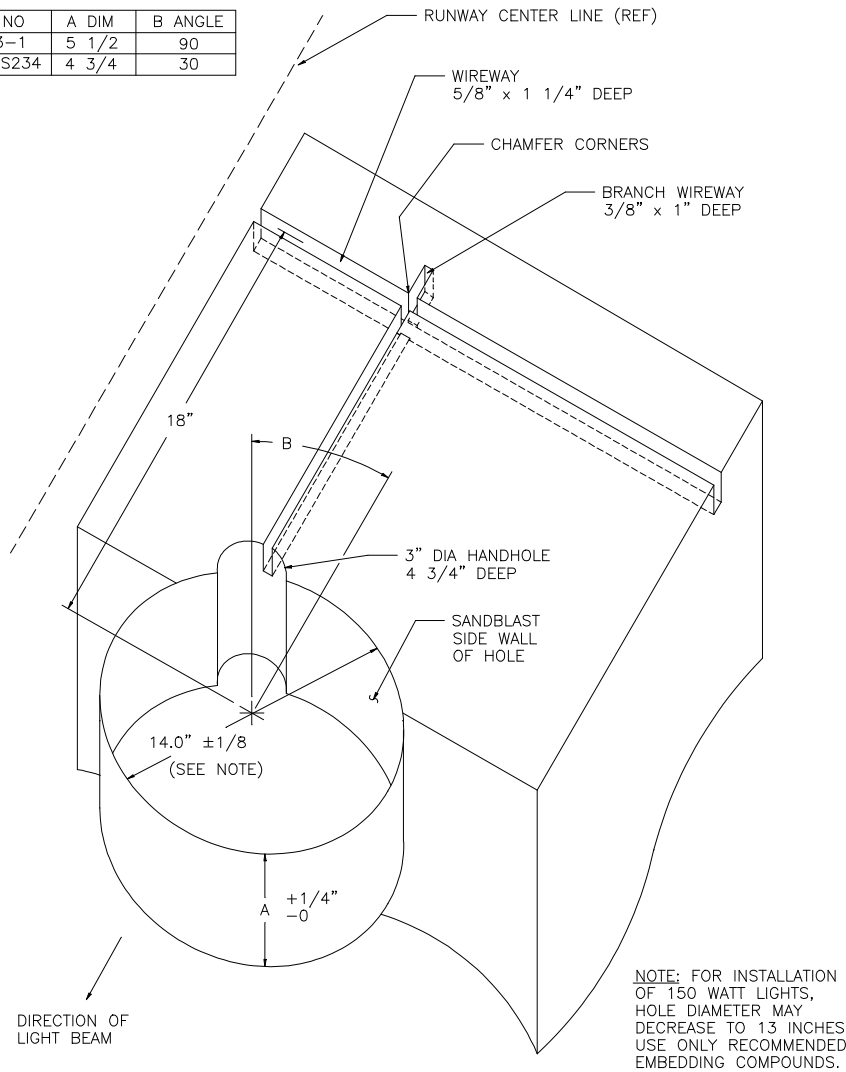

FIGURE 6
Drill recess in pavement as illustrated in Figure 6. Be sure that the recess size and depth are maintained within the specified limits. The recess side walls must be perpendicular to the pavement surface. The bottom surface must be flat or slightly concave to assure that the Shallow Base Receptacle rests securely and in true position. The recess can best be drilled using a diamond-faced core drill in a sturdy, stable rig.
2.1.1 The wireways should be sawed using a diamond-faced saw, as shown in Figure 6 and 9. When wireways cross construction joints, the sawcuts should extend 1 inch below the existing joint for a distance of six inches each side of the joint. Fill to one inch from top of the pavement with an appropriate joint sealing filler in accordance with Section E, page 32.